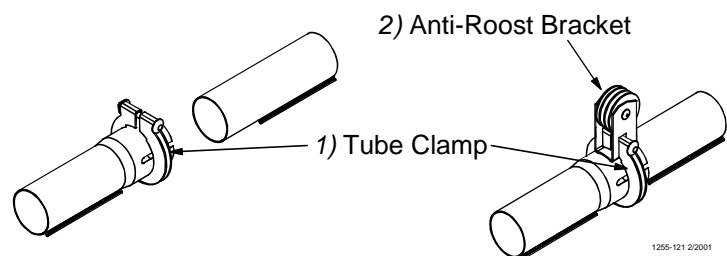

Figure 23. Tube Clamp and Tube Clamp with Anti-Roost Bracket
4. Place a Tube Clamp Assembly or Clamp/Anti-Roost Bracket at each joint. **Figure 23** shows the standard Clamp and Clamp/Anti-Roost Bracket. Systems using 9' or 10' tubes require a Clamp/Anti-Roost Bracket at every **fifth** joint. Systems using 12' tubes require a Clamp/Anti-Roost Bracket at every **fourth** joint. All other joints in the system use the standard Tube Clamp Assembly.